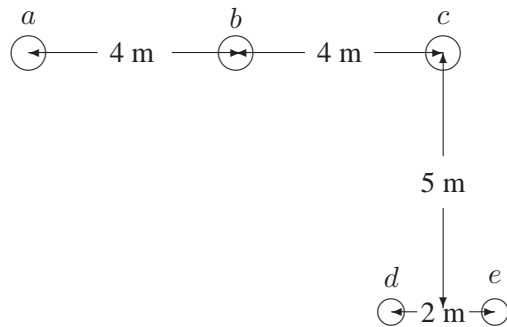

FIGURE 45
4.14. A three-phase, 60-Hz, untransposed transmission line runs in parallel with a telephone line for 20 km. The power line carries a balanced three-phase rms current of $I_a = 320\angle 0^\circ$ A, $I_b = 320\angle -120^\circ$ A, and $I_c = 320\angle -240^\circ$ A. The line configuration is as shown in Figure 45. Assume zero current flows in the ungrounded telephone wires. Find the magnitude of the voltage induced in the telephone line.